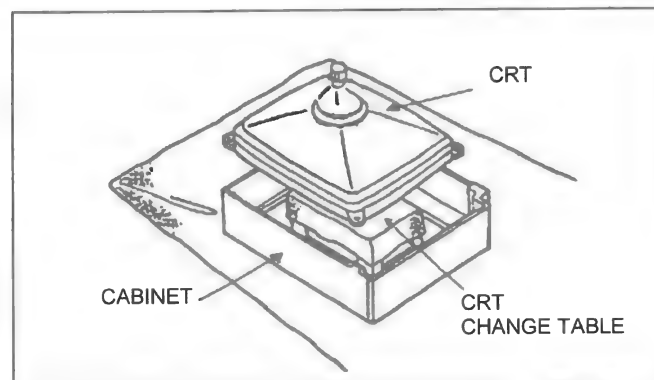

Fig. 5
- 3. Remove 4 screws marked by arrows with a box type screwdriver as shown in Fig.5.
- 4. After 4 screws have been removed, put the cabinet slowly on cloth (At this time, be carefully so as not to damage the front surface of the cabinet) shown in Fig.5.